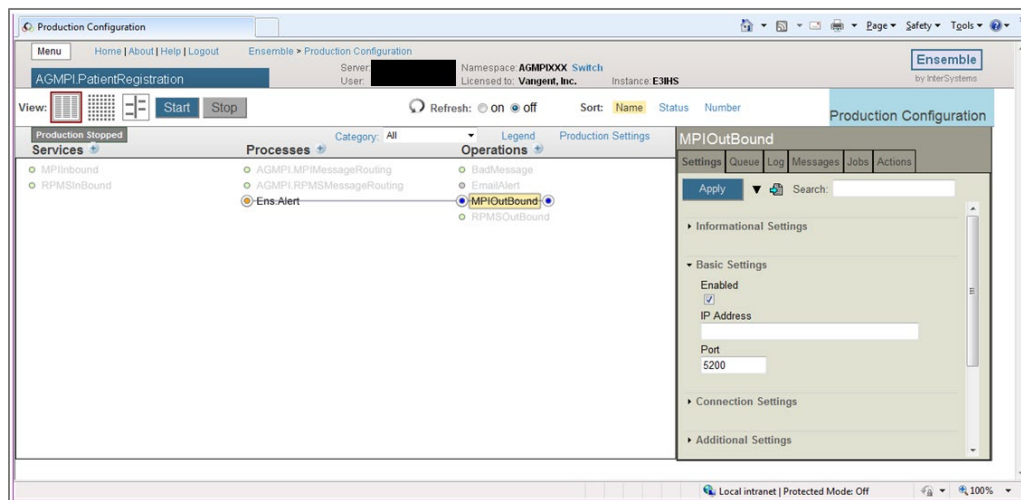

Figure 5-25: MPIOutBound configuration settings
1. Click **MPIOutBound** on the **Production Configuration** page to display the MPIOutBound configuration settings, as shown in Figure 5-25.